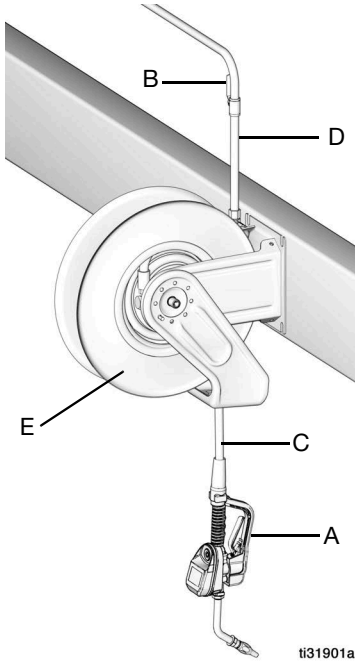

FIG. 4
The typical installation shown in FIG. 4 is only a guide. It is not a complete system design. Contact your Graco distributor for assistance in designing a system to suit your needs.
2. Close fluid shut-off valve (B, FIG. 4, page 9).
1. Close the fluid shut-off valve (B, see FIG. 4, page 9) at each dispense position.
4. Slowly open the fluid shut-off valve (B) at the dispense position. Flush a sufficient amount of oil to ensure that the entire system is clean; then close the valve.